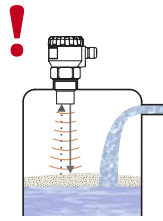

Fig. 5: Thick foam on the surface
- During filling, mixing and other processes, **foam** can arise on the surface level of the measured liquid. The thick foam considerably absorbs the ultrasonic signal which might cause malfunction of the level meter (Fig. 5). For such cases, it is necessary to set up "SENSITIVITY" mode (p. 14) to "high" or contact the manufacturer if need.